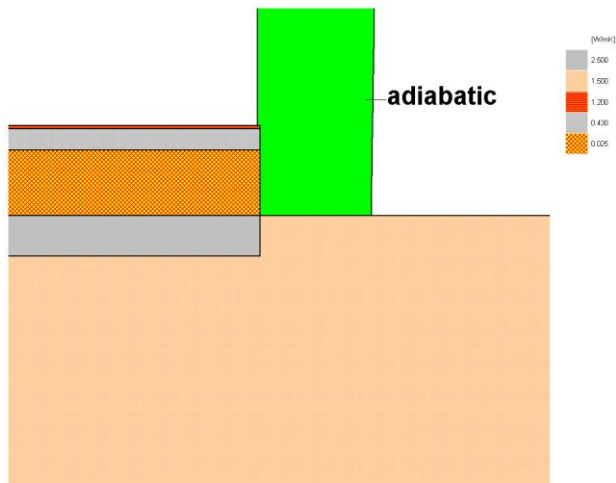

Figure 4: detail used to calculate U_{floor} (zoomed)
- No wall junction is considered. The wall is replaced by an adiabatic boundary condition and the foundation under the wall is replaced by ground (Figure 4), according to ISO 13370.